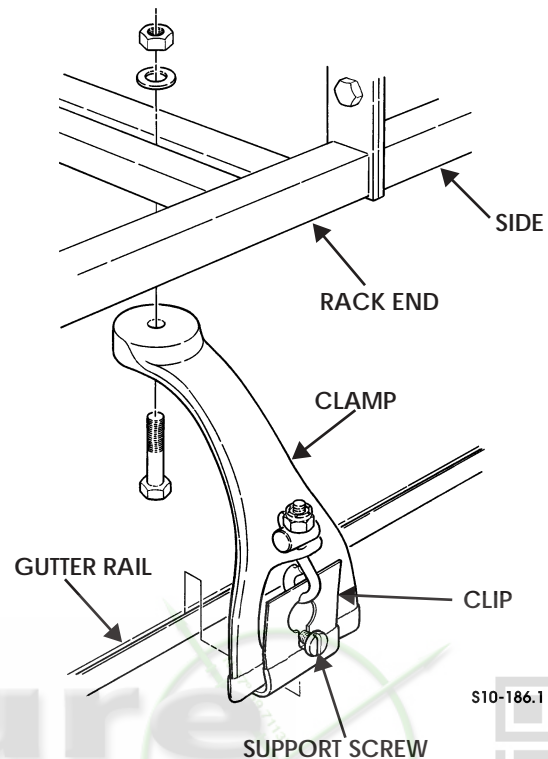

Figure 13-58: Roof Rack Clamp
1. Loosen support screw on clamp securing clip to clamp (Figure 13-58).